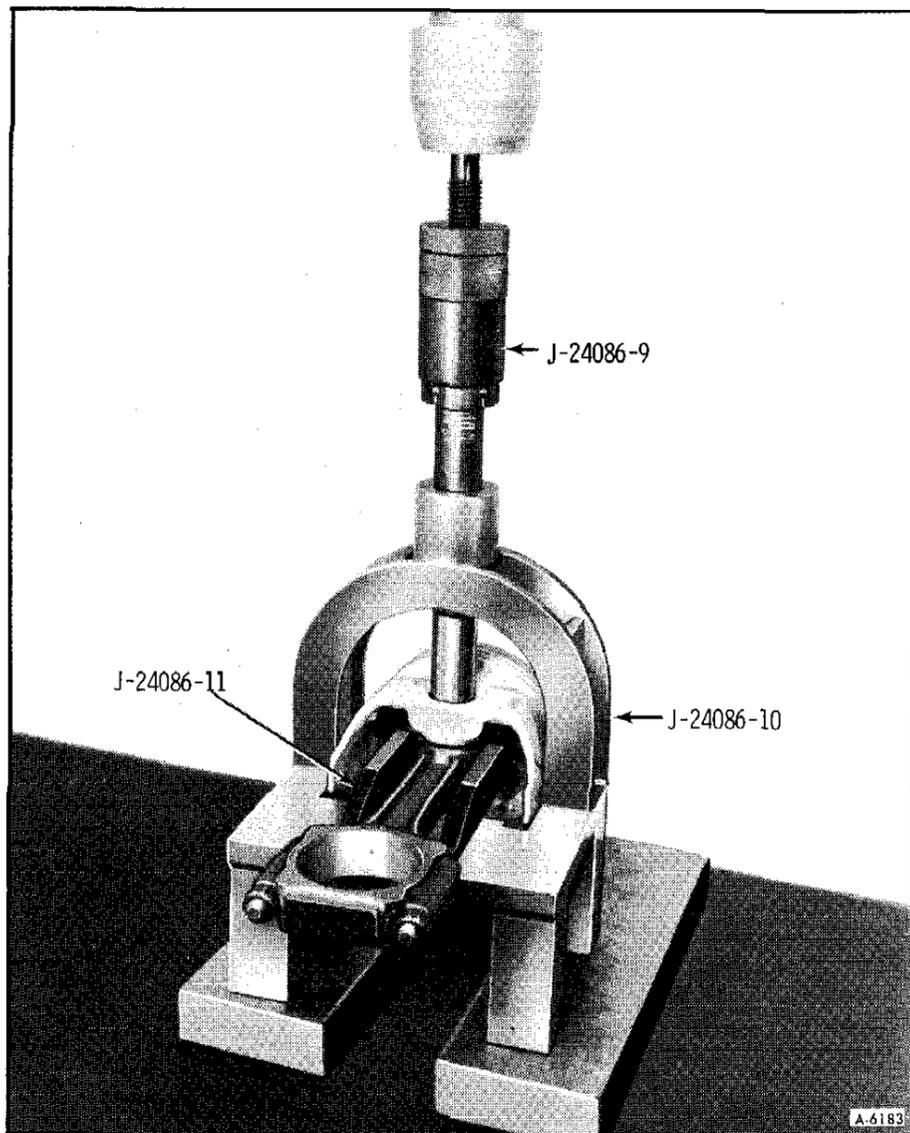

Figure 3—Installing Piston Pin with J-24086-9
4. Insert the installing arbor through the hole in the arch of the tool (figure 3). Press piston pin into the connecting rod until the sleeve on the installing arbor contacts the top of the tool arch. The pin guide will fall out of the connecting rod as the piston pin is pressed in.